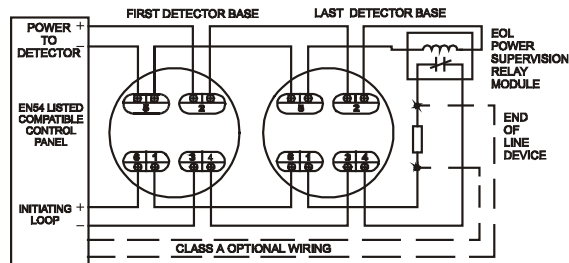

Fig. 1.B Installing the 4-wire multiple station smoke detector base
Figure 1 shows the typical wiring diagram of the 4-wire multiple-station smoke detector system.
- The end-of-line device shown in fig. 1(a) and 1(b) should be compatible with the control unit. The end-of-line supervisory relay used should be rated for the DC power voltage used.